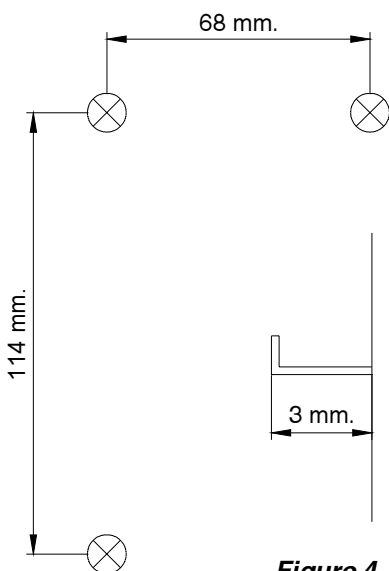

Figure 4
2. Place the machine on the three machine attachment screws. See **figure 4**.